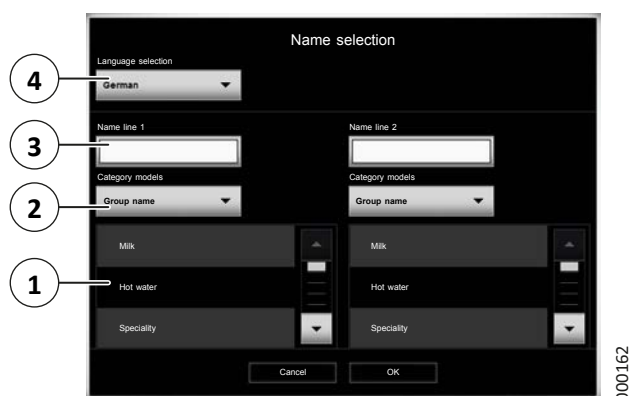

Fig. 27: Selecting or entering a name
- The naming is performed in a similar dialog as in Fig. 27.